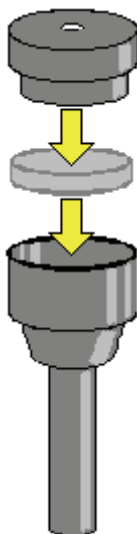

Figure 22 Assembling the septum injector
1. Place a septum into the injector barrel (L2251286) and push the cap (L2251287) into the barrel, trapping the septum, as shown in Figure 22.